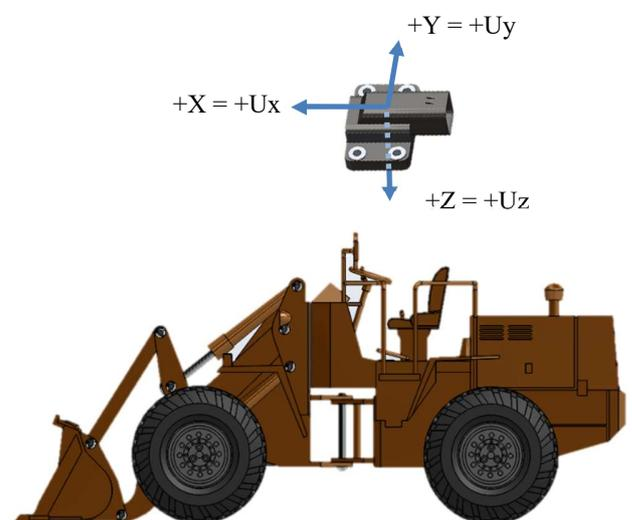

Figure 2: Cab Mounting Application
**Example 1:** Cab Orientation Monitoring with mounting as depicted in Figure 2.